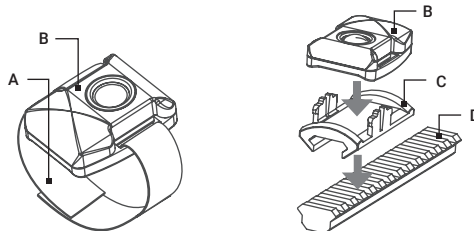

FIGURE 2-7. WIRELESS REMOTE CONTROL
Using Velcro tape (A), fasten the Wireless Remote Control (B) (Figure 2-7) to your weapon in an easily accessible place (e.g., on the front of the rifle stock) on the side of the Comanche-22's control compartment preferably.